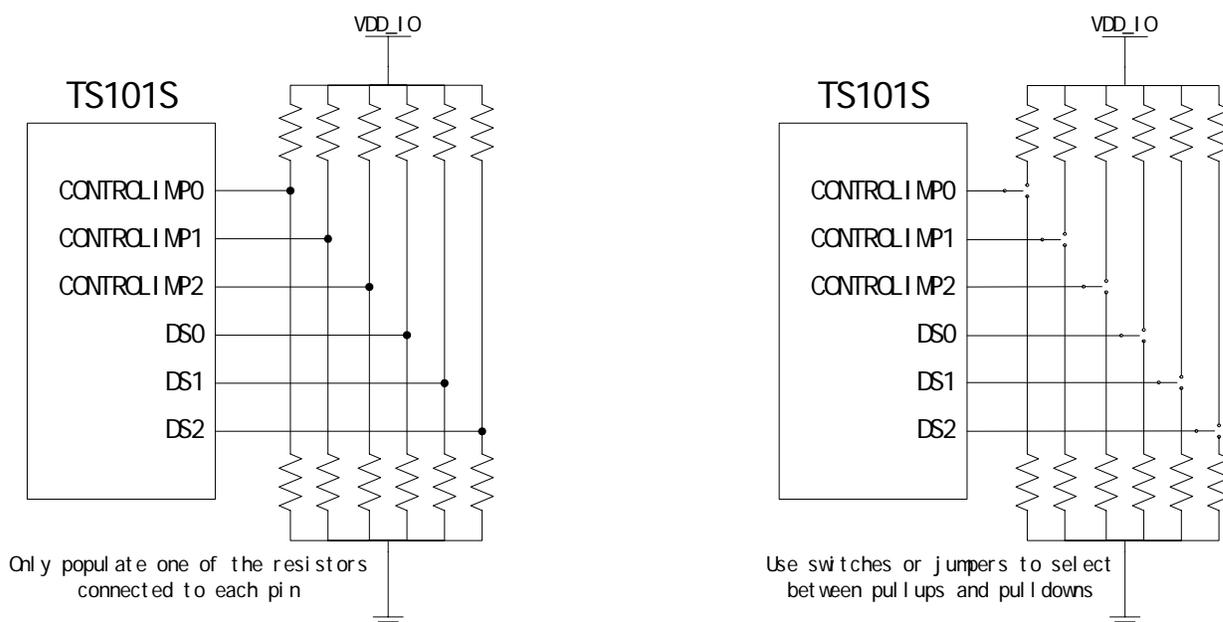

Figure 8. Drive strength configuration methods
2. Since control impedance and drive strength of the I/O pins can be adjusted by the pull-up or pull-down resistors on CONTROLIMP[2:0] and DS[2:0] pins, configure these pins in the most proper way according to the result of signal integrity analysis. If SI analysis is impossible, use switches or jumpers to select between pull-ups and pull-downs (or just populate the resistors in different ways to obtain the best signal integrity if SI analysis is impossible). See Figure 8.